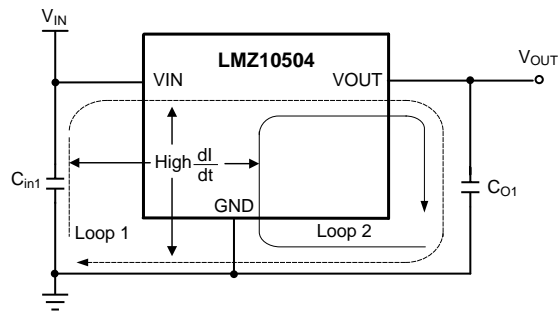

Figure 29. Critical Current Loops to Minimize
From an EMI reduction standpoint, it is imperative to minimize the high di/dt current paths. The high current that does not overlap contains high di/dt, see Figure 29. Therefore physically place input capacitor ( $C_{in1}$ ) as close as possible to the LMZ10504 VIN pin and GND exposed pad to avoid observable high-frequency noise on the output pin. This will minimize the high di/dt area and reduce radiated EMI. Additionally, grounding for both the input and output capacitor should consist of a localized top side plane that connects to the GND exposed pad (EP).